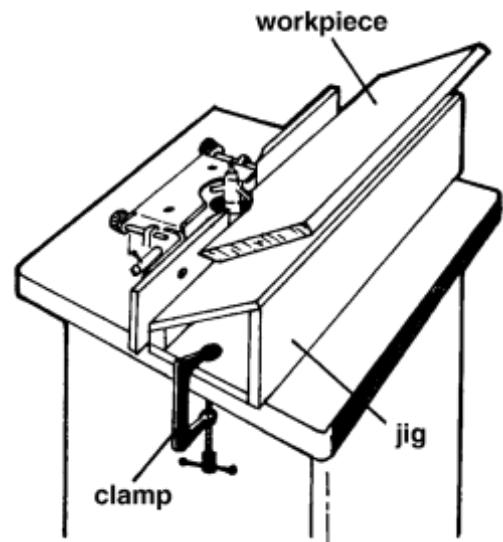

Fig. 30
1. Use the hold-ins and hold-downs as shown in Fig. 30 to firmly hold the workpiece down and against the fence. If workpiece is too wide for the hold-ins to be used, clamp a scrap board to the table to substitute for the hold-ins.
To perform a bevel-edge cut, the in-feed edge of the jig is placed against the infeed fence and clamped to the table as shown in Figure 30. The outfeed fence is moved forward as necessary to compensate for the cut.